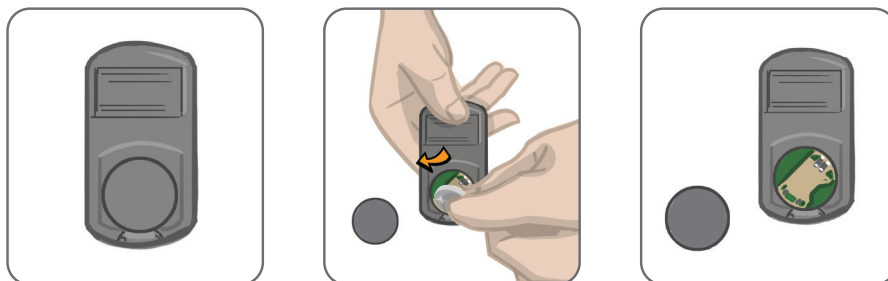

Figure 8-2: Replacing the Control Unit Battery
1. Use the recessed area on the back of the Control Unit to pop out the battery lid cover. If you find it difficult to remove the cover a coin (quarter) may be used to open the cover. See Figure 8-2.
2. Remove the old battery by pushing the battery toward the metal tabs (as shown by the arrow on Figure 8-2), and carefully lifting the battery up. Metal tools, such as a screwdriver, should not be used.